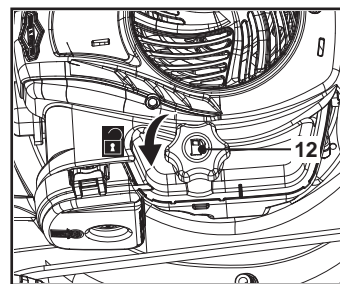

Fig. 7
3. Unscrew and remove the fuel tank cap (12) (Fig. 7).